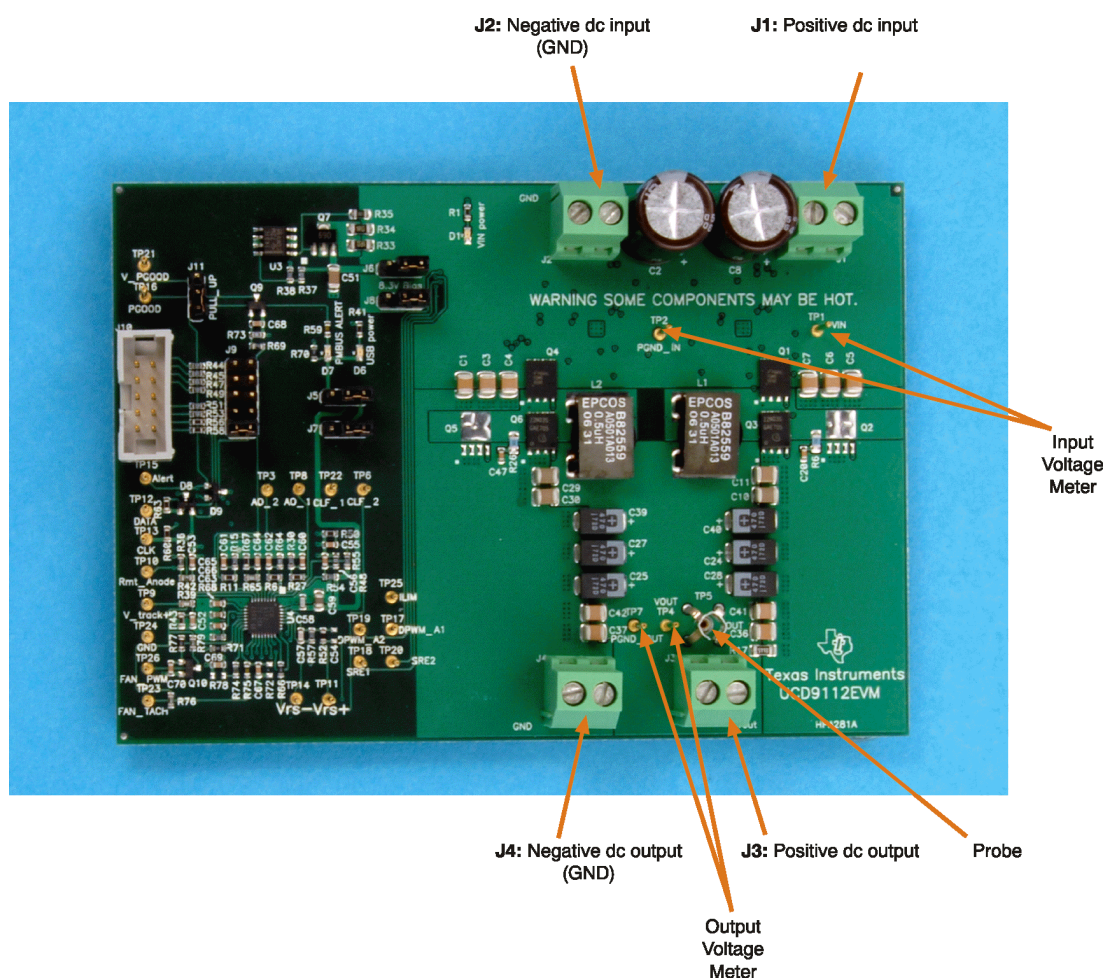

Figure 1. DC Input Power and Output Power Connection
The basic test setup is shown in Figure 1. The EVM board should be used at an approved electrostatic discharge (ESD) workstation. Before powering on the EVM board, make sure that a wrist strap, boot straps, or mats are connected to reference the user to earth ground. ESD-rated smocks and safety glasses must also be worn.
There are four steps to complete the input connection. The input connection is shown in Figure 1.
3. Connect J4 to the negative terminal of the load using AWG #14 wire. This connection is shown in Figure 1.
Use a probe to plug into TP5 to measure the output voltage ripple through the oscilloscope. These connections are shown in Figure 1.